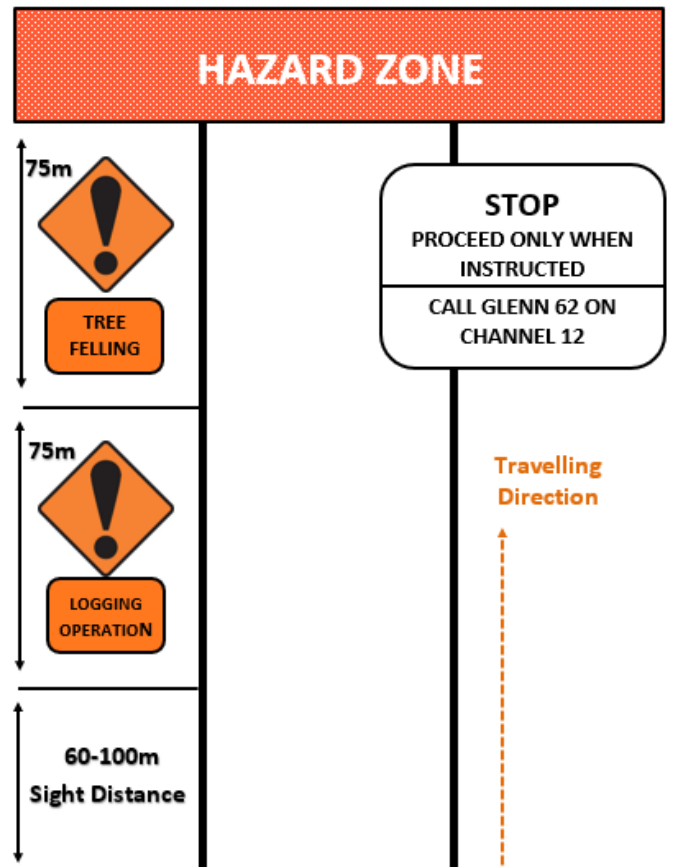

Fig 4
- If traffic must be allowed through the hazard zone, then TCC shall be put in place (Fig 4 Temporary Road Closure).